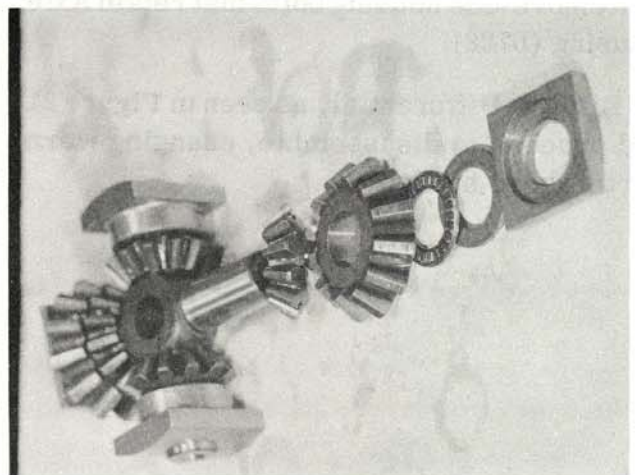

Figure 25
6. Next, assemble the four spider gears, with close reference to Figure 25, which shows three spider gears assembled, and parts for the fourth spider gear ready for assembly, and in line in order to the way the parts will be assembled.